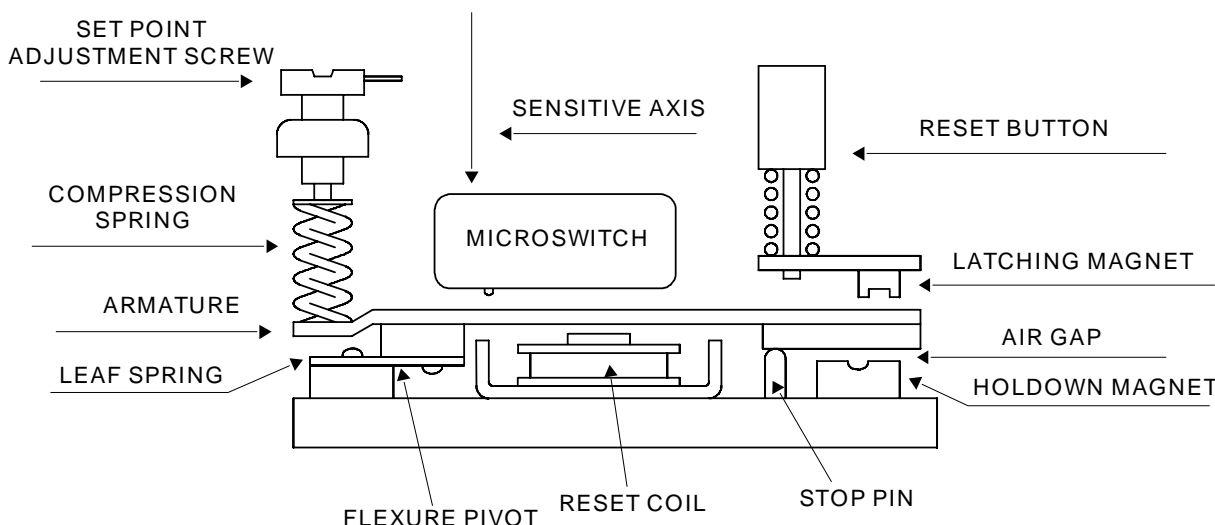

Figure 4-1. Operating Principle for the Vibraswitch, Model 366.
The Vibraswitch, Model EURO 366 (Refer to Figure 4-1), is sensitive to vibration in a direction (the sensitive axis) perpendicular to its mounting base. It contains a vibration detecting mechanism, which also functions as a “mechanical amplifier”, to activate a snap-action switch when the selected level of vibration is exceeded and the detecting mechanism “trips”.
With the equipment on which the Vibraswitch is mounted not operating, back off the Setpoint adjusting screw counterclockwise (CCW) two turns and press the reset button. Then turn the Setpoint adjusting screw slowly clockwise until actuation occurs (the armature assembly is against the latch magnet, Figure 4-1). This is the zero vibration point, or actuating point, with the machine not operating. A mark should be made with a lead pencil or other convenient means to permanently record this “zero vibration point”. Subsequent measurements are made relative to this point.
Vibraswitches do not normally require any maintenance or repair, however, listed below are some of the possible malfunctions that may occur and their recommended solutions (Ref. Figure 4-1). Perform all tests with field wiring disconnected.
a. Functional Test - (Ref. Figure 4-1)
2. Broken leaf spring - (Ref. Figure 4-1).
Defective or improperly adjusted switch - (Ref. Figure 4-1).